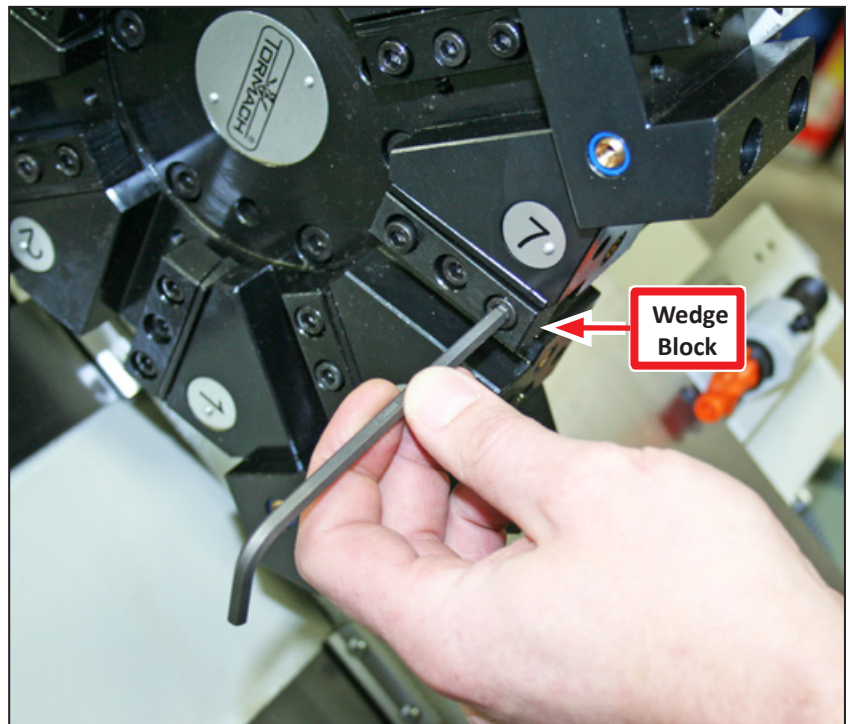

Figure 35
1. Loosen two outside screws in the Wedge Block (see **Figure 35**); remove the Extraction Bolt in the center hole and keep for later use.